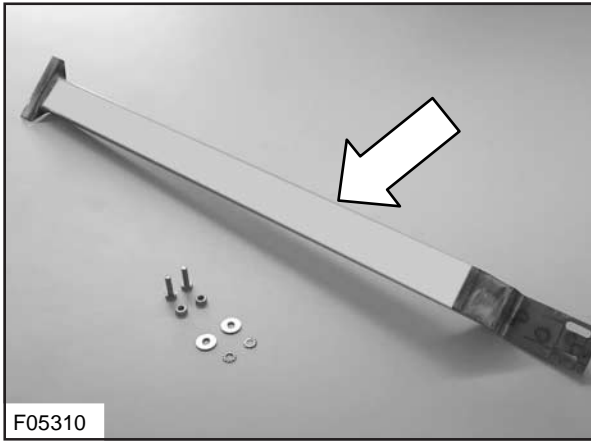

Figure 2 : Reinforcement brace with two-sided self-adhesive tape for aisle section above fuel tank
2. Cut a length of approximately 21 inches (530 mm) of two-sided self-adhesive tape VH 660193602 and stick it to the top of reinforcement brace VH10726402 (see Figure 2). Remove the protective strip on the tape.